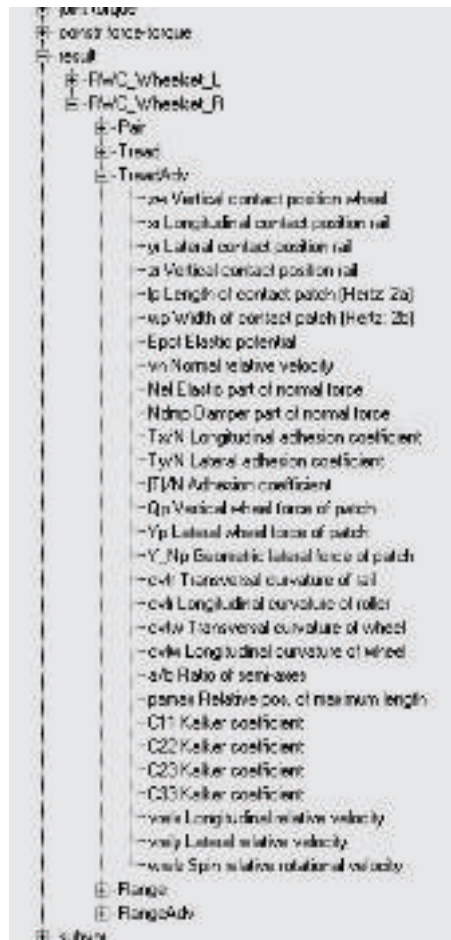

Fig. 3: A Selection of the Available Contact Results
- More contact related PostProcessor outputs (fig. 3),